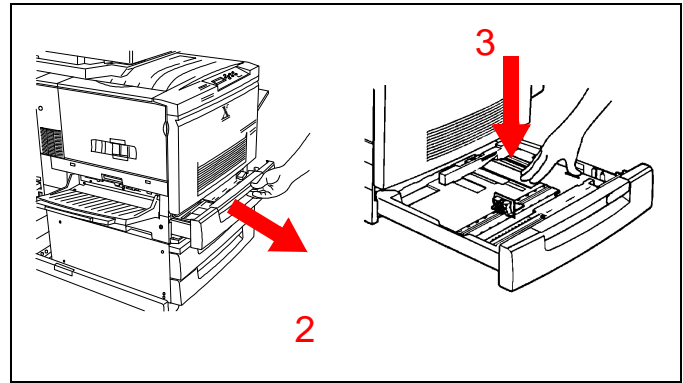

Figure 7
2. See Figure 7. Open the tray by pulling it straight out.